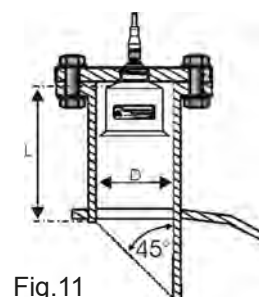

Fig.11
**RIL390-91-96** can be installed in an extension pipe (see Figure 11) to turn away the sensor from the maximum level point. The extension pipe must be flat and without joints (welds, etc.), also, the pipe terminal part must be cut at 45° and with the borders without burr.